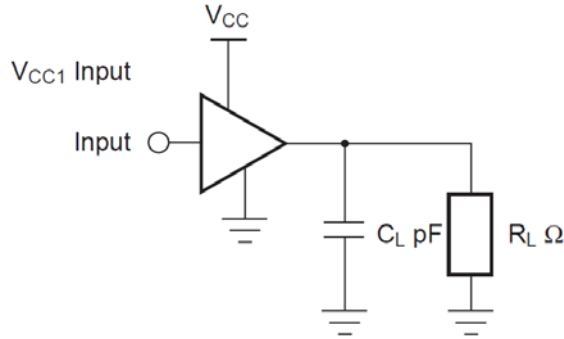
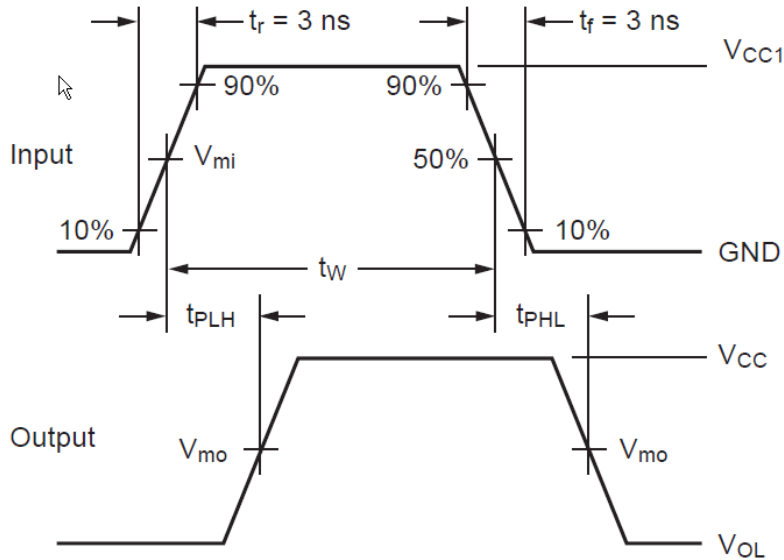

Figure 3. AC Test Circuit
Figure 4. Waveform for Inverting and Non-Inverting Functions
| t _{PHL} , t _{PLH} | Propagation Delay Output Translation V _{CC} (V) = 1.0 | C _L = 15 pF, R _L = 1 MΩ | 1.0 | - | 28.0 | - | - | - | ns | Figure 3, Figure 4 |
| t _{PHL} , t _{PLH} | Propagation Delay Output Translation V _{CC} (V) = 1.2 | C _L = 15 pF, R _L = 1 MΩ | 1.0 | - | 19.0 | - | - | - | ns | Figure 3, Figure 4 |
| t _{PHL} , t _{PLH} | Propagation Delay Output Translation V _{CC} (V) = 1.5 | C _L = 15 pF, R _L = 1 MΩ | 1.0 | - | 15.0 | - | - | - | ns | Figure 3, Figure 4 |
| t _{PHL} , t _{PLH} | Propagation Delay Output Translation V _{CC} (V) = 1.8 | C _L = 15 pF, R _L = 1 MΩ | 1.0 | - | 14.0 | - | - | - | ns | Figure 3, Figure 4 |
| t _{PHL} , t _{PLH} | Propagation Delay Output Translation V _{CC} (V) = 2.5 | C _L = 15 pF, R _L = 1 MΩ | 1.0 | - | 12.0 | - | - | - | ns | Figure 3, Figure 4 |
| t _{PHL} , t _{PLH} | Propagation Delay Output Translation V _{CC} (V) = 3.3 | C _L = 15 pF, R _L = 1 MΩ | 1.0 | - | 11.0 | - | - | - | ns | Figure 3, Figure 4 |
| t _{PHL} , t _{PLH} | Propagation Delay Output Translation V _{CC} (V) = 1.0 | C _L = 30 pF, R _L = 1 MΩ | 1.0 | – | 34.0 | – | – | – | ns | Figure 3, Figure 4 |
| t _{PHL} , t _{PLH} | Propagation Delay Output Translation V _{CC} (V) = 1.2 | C _L = 30 pF, R _L = 1 MΩ | 1.0 | – | 22.0 | – | – | – | ns | Figure 3, Figure 4 |
| t _{PHL} , t _{PLH} | Propagation Delay Output Translation V _{CC} (V) = 1.5 | C _L = 30 pF, R _L = 1 MΩ | 1.0 | – | 16.0 | – | – | – | ns | Figure 3, Figure 4 |
| t _{PHL} , t _{PLH} | Propagation Delay Output Translation V _{CC} (V) = 1.8 | C _L = 30 pF, R _L = 1 MΩ | 1.0 | – | 15.0 | – | – | – | ns | Figure 3, Figure 4 |
| t _{PHL} , t _{PLH} | Propagation Delay Output Translation V _{CC} (V) = 2.5 | C _L = 30 pF, R _L = 1 MΩ | 1.0 | – | 13.0 | – | – | – | ns | Figure 3, Figure 4 |
| t _{PHL} , t _{PLH} | Propagation Delay Output Translation V _{CC} (V) = 3.3 | C _L = 30 pF, R _L = 1 MΩ | 1.0 | – | 12.0 | – | – | – | ns | Figure 3, Figure 4 |